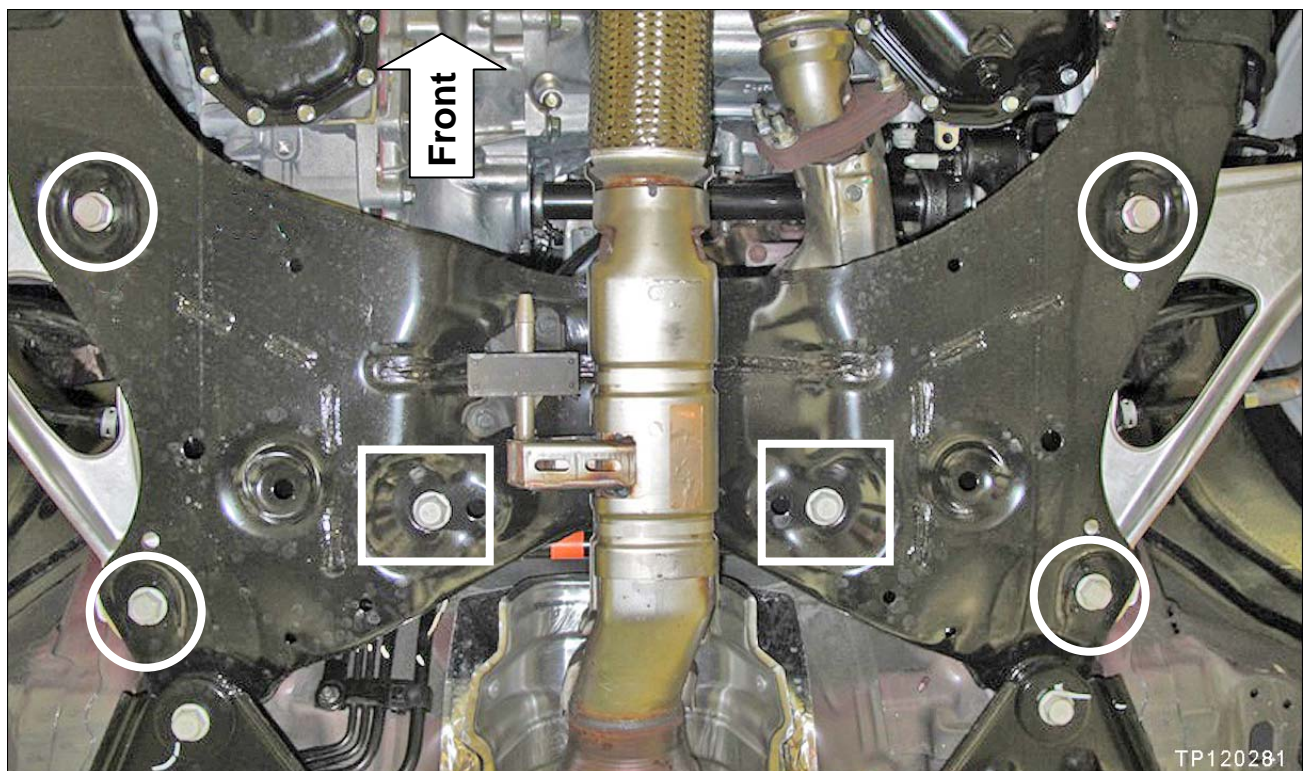

Figure 1
2. Locate the bolts shown in Figure 1.
- Four (4) transverse link bolts: ○
- Two (2) power steering rack bolts: □
3. For each of the 6 bolts shown in Figure 1 on the previous page, check for looseness as follows: